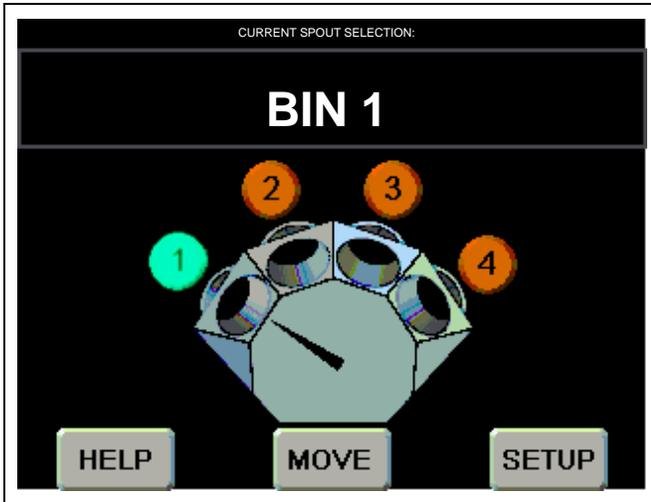
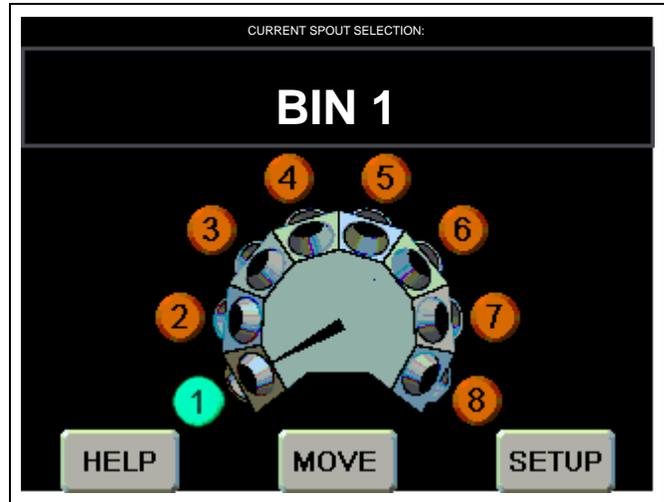
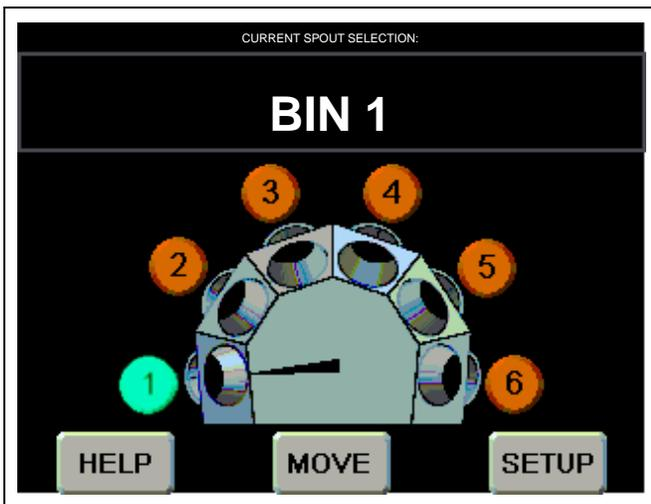
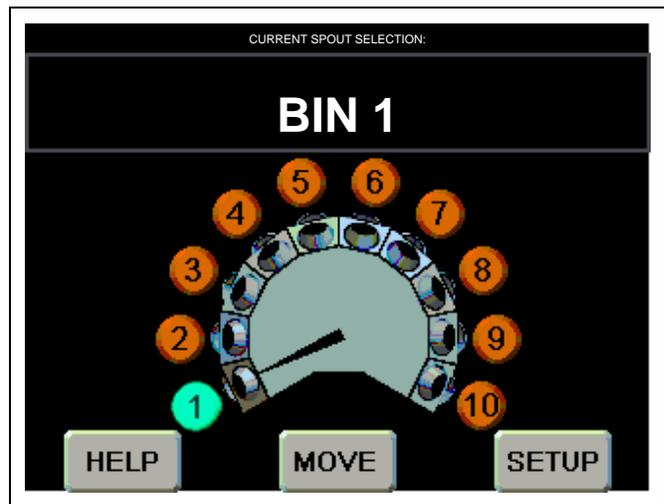

Figure 4B Four (4) Spout Main Screen
Figure 4D Eight (8) Spout Main Screen
Figure 4C Six (6) Spout Main Screen
Figure 4E Ten (10) Spout Main Screen
Depending on the number of spouts in the current configuration, one of the following screens will be displayed. (See Figure 4B, Figure 4C, Figure 4D and Figure 4E.) The name of the current spout is indicated at the top of the screen and is indicated in the graphic with a green circle. At the bottom of the screen are three (3) buttons to navigate to either the Help Menu, Move Screen or Setup Menu.